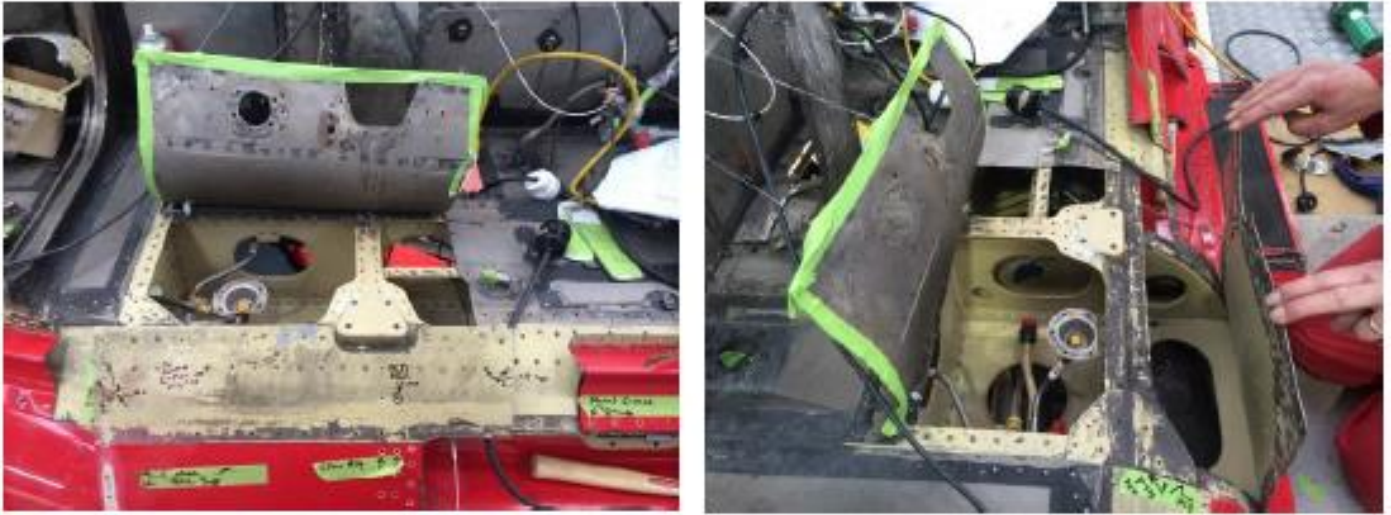

Figure 1
5. With reference to Figure 1, cut upper deck skin, water deflector and outboard curved skin according to repair schemes in Appendix B.
Rivets list for Figures from Figure 13 to Figure 1: